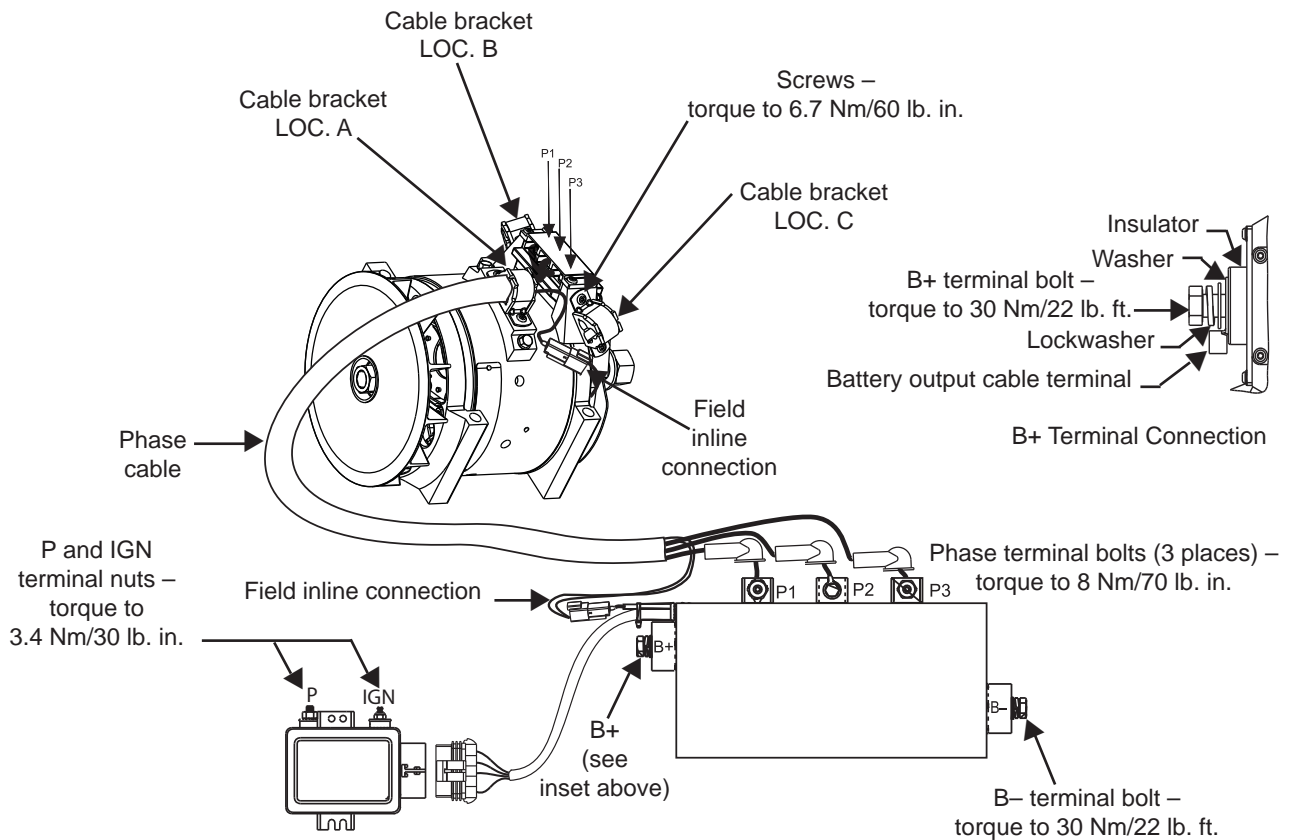

Figure 4 - Electrical Connections
- a) Run phase cable through cable bracket mounted in one of three locations (LOC. A, B, or C). See Figure 4.
2. Connect remaining harnesses between components as shown in Figure 4. Use torque values shown.